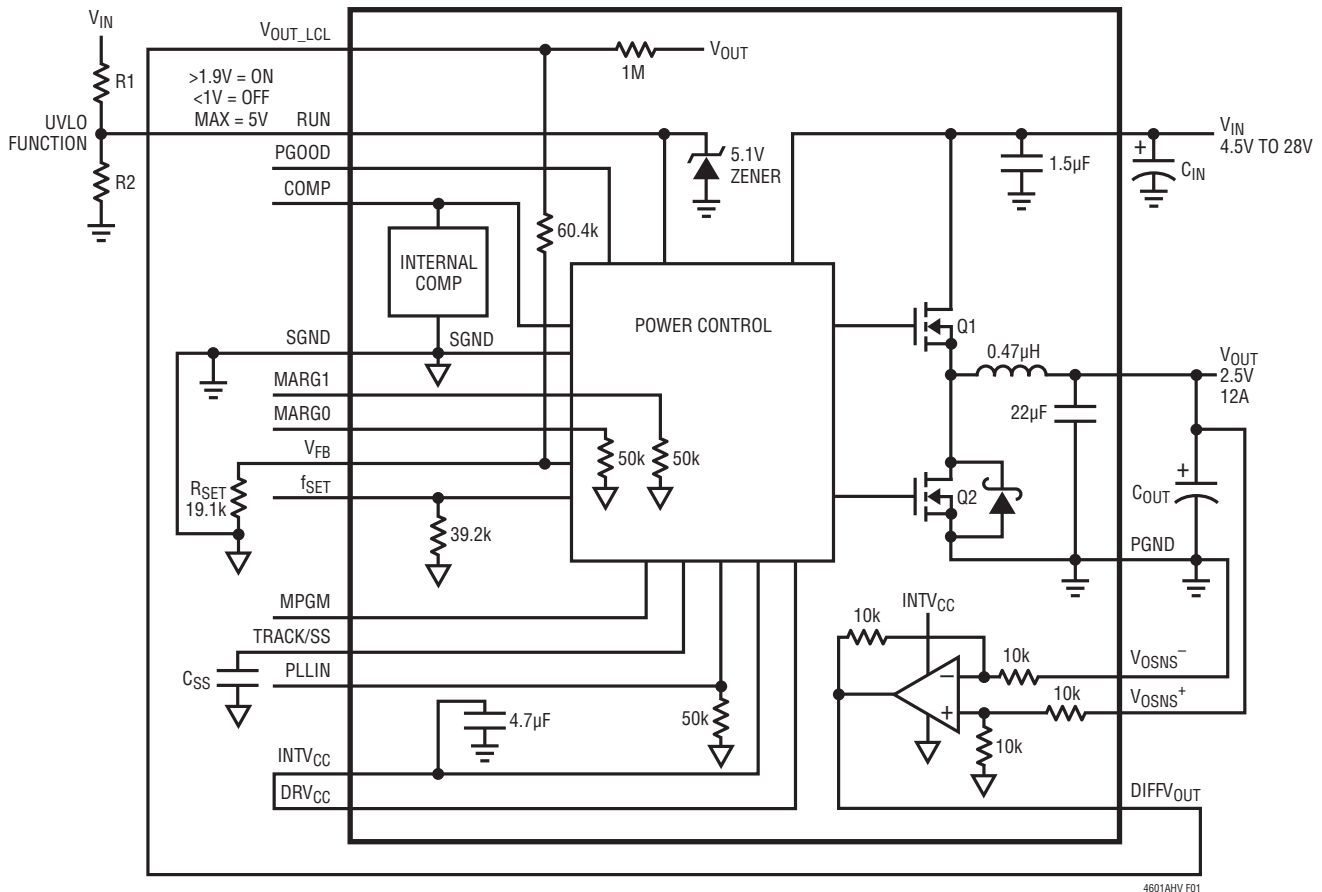

Figure 1. Simplified LTM4601AHV Block Diagram
off the module. A programmable UVLO function can be accomplished by connecting to a resistor divider from  $V_{IN}$  to ground. See Figure 1. This pin has a 5.1V Zener to ground. Maximum pin voltage is 5V. Limit current into the RUN pin to less than 1mA.
**DECOUPLING REQUIREMENTS** $T_A = 25^\circ\text{C}$ ,  $V_{IN} = 12\text{V}$ . Use Figure 1 configuration.
See Figure 1, Simplified Block Diagram.